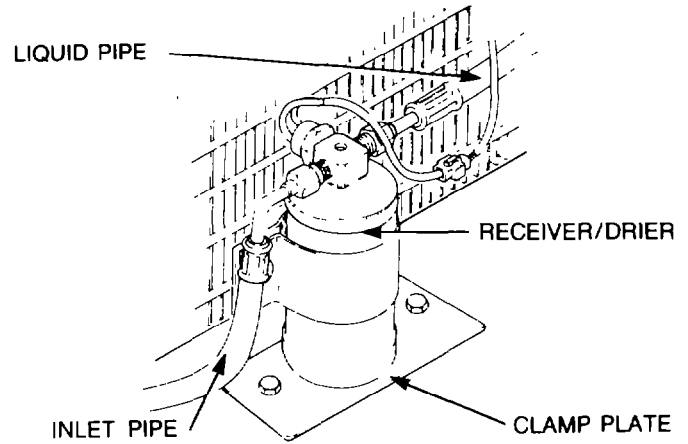

Figure 4 - Correct Fitting of Receiver/Drier
20. All applicable vehicles shown in Table 1 are to have the receiver/drier checked for correct fitting by a Rover Australia dealer. The receiver/drier is correctly fitted when the pressure switch faces the condenser when viewed through the mesh screen as shown in Figure 4. If the receiver/drier is incorrectly fitted then a new item is to be correctly fitted, under warranty, by the Rover Dealer.